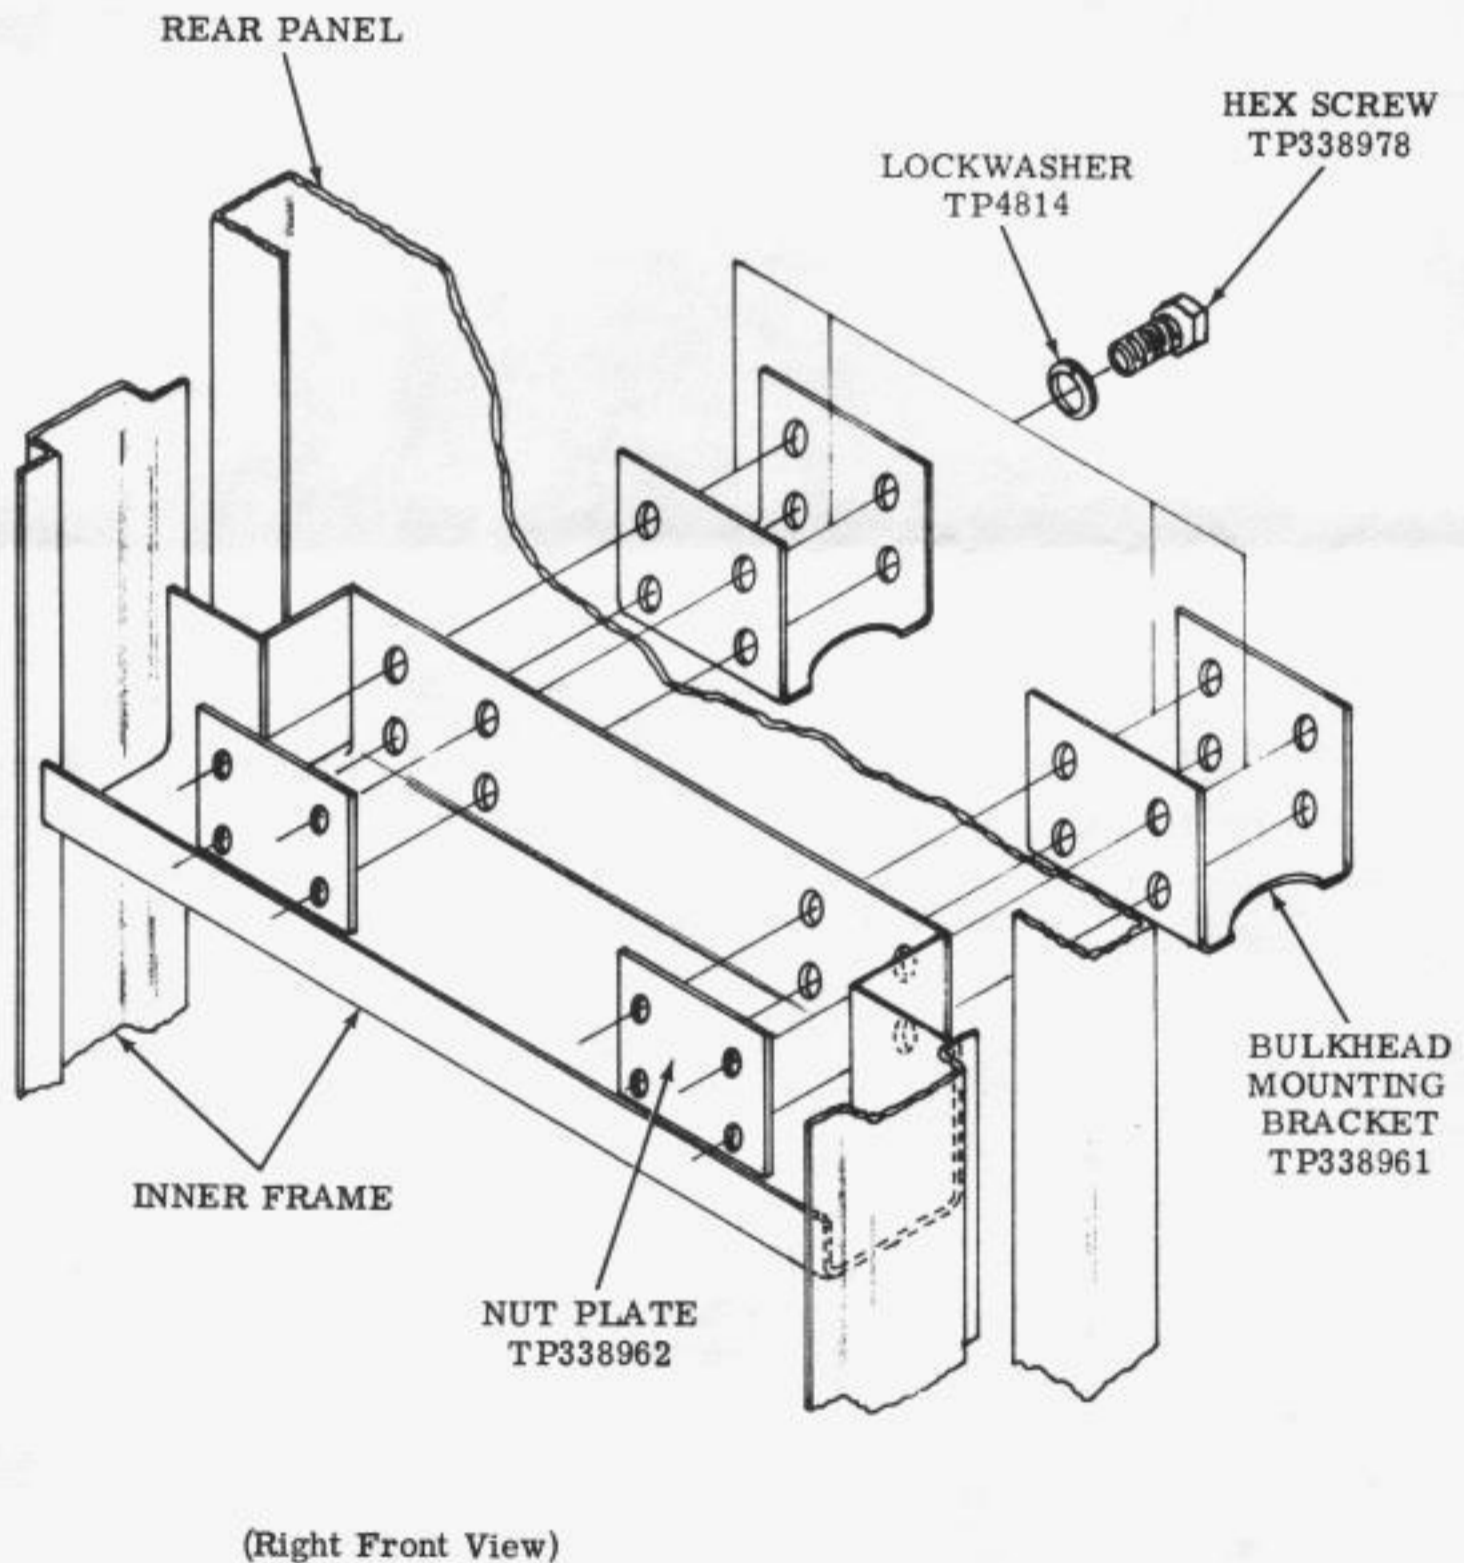

Figure 24 - Bulkhead Mounting Hardware
2.96 Assemble bulkhead mounting brackets TP338961 to the rear inner frame of cabinet with nut plates TP338962, hex screws TP338978, and lockwashers TP4814 as shown in Figure 24.